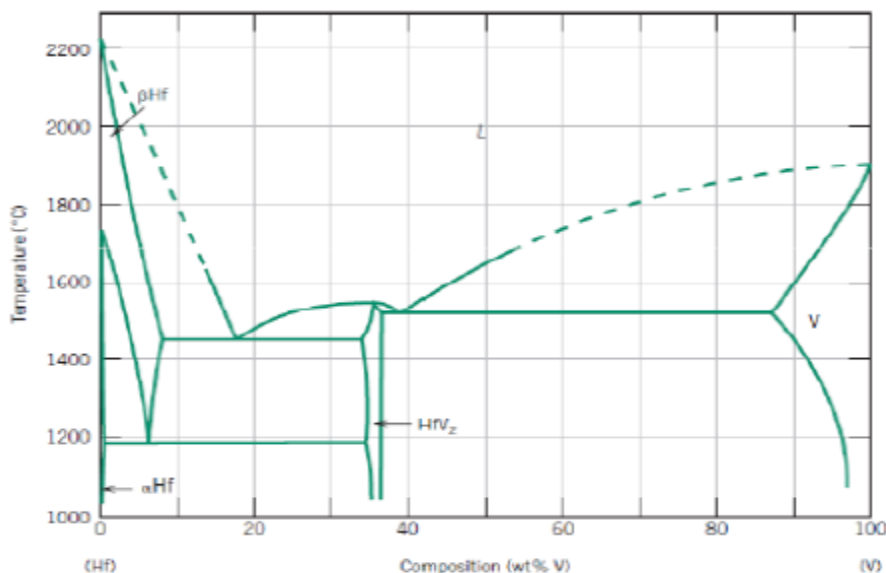

Figure 1: hafnium–vanadium phase diagram
- (c) The figure 1 below is the hafnium–vanadium phase diagram, for which only single-phase regions are labeled. Specify temperature–composition points at which all eutectics, eutectoids, peritectic, and congruent phase transformations occur. Also, for each, write the reaction upon cooling. **[10 marks]**